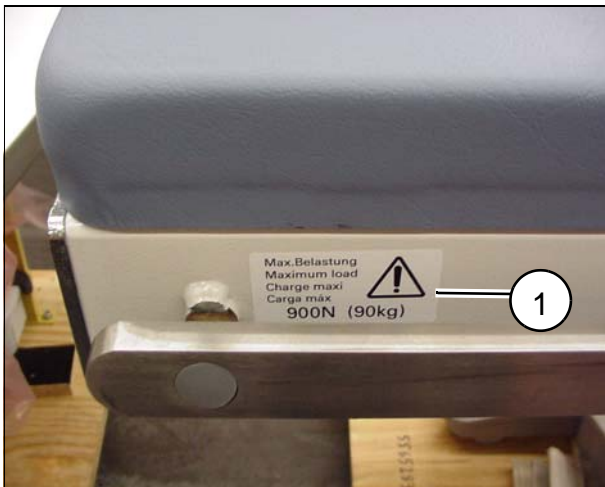

Fig. 5
- Attach the stick-on label (1/Fig. 5) on both sides of the table.